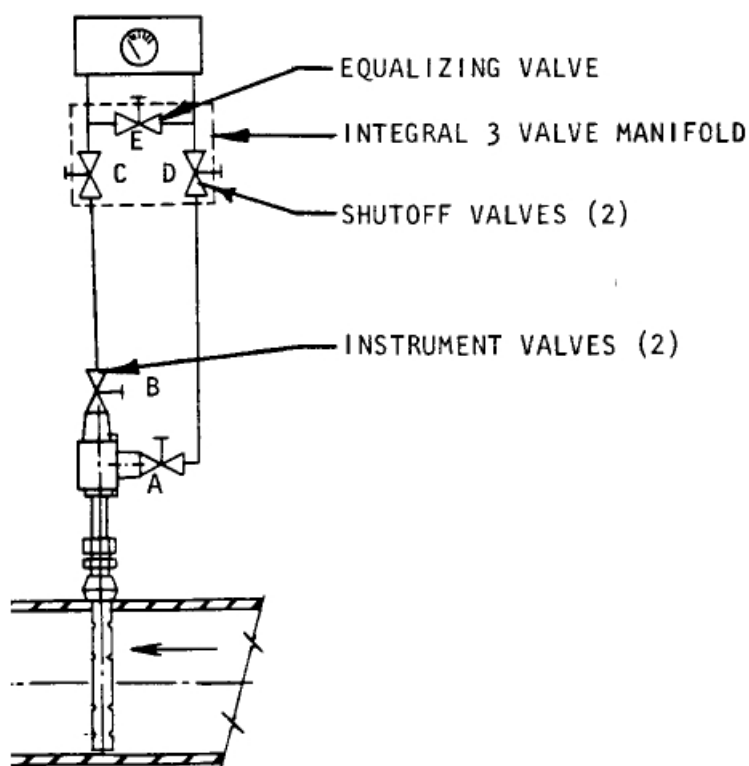

FIGURE 5.1 TYPICAL VALVE ARRANGEMENT
5.1 Once the Accutube is installed in the proper location and the instrument lines are installed to the indicator, the unit is prepared for operation. Operation of the Accutube involves setting valves in the proper sequence. Refer to Figure 5.1 in the following steps.